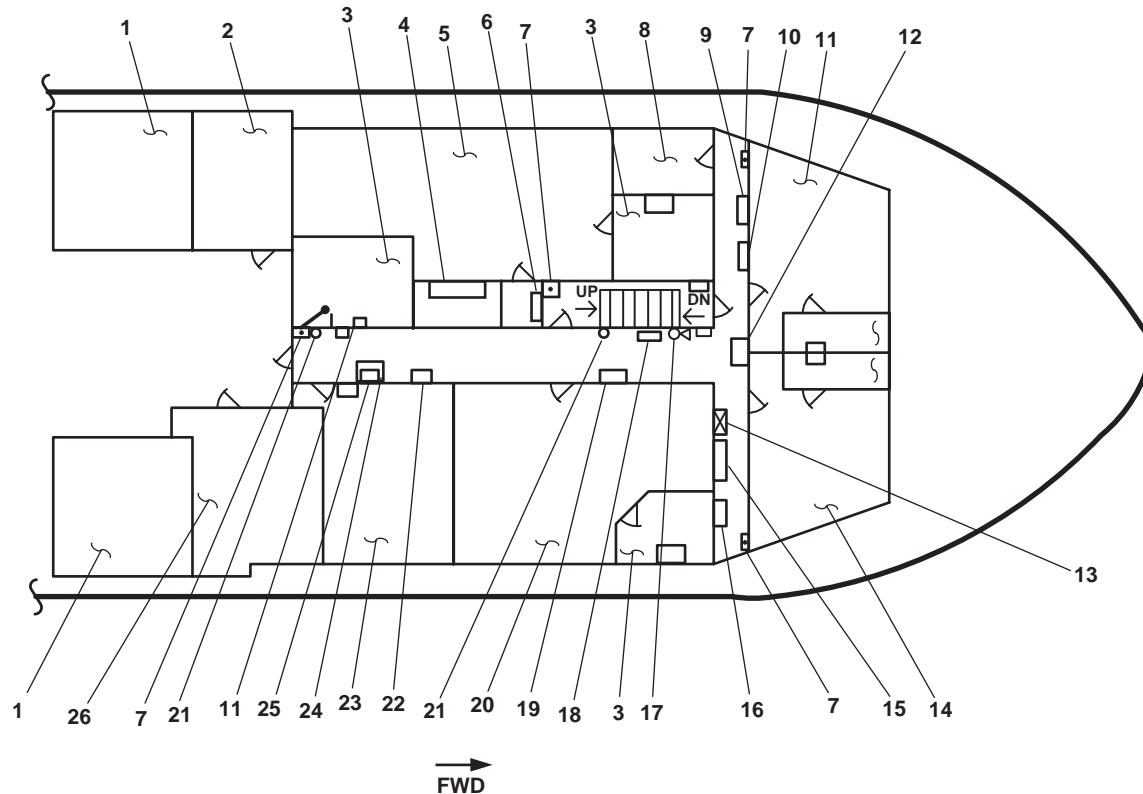
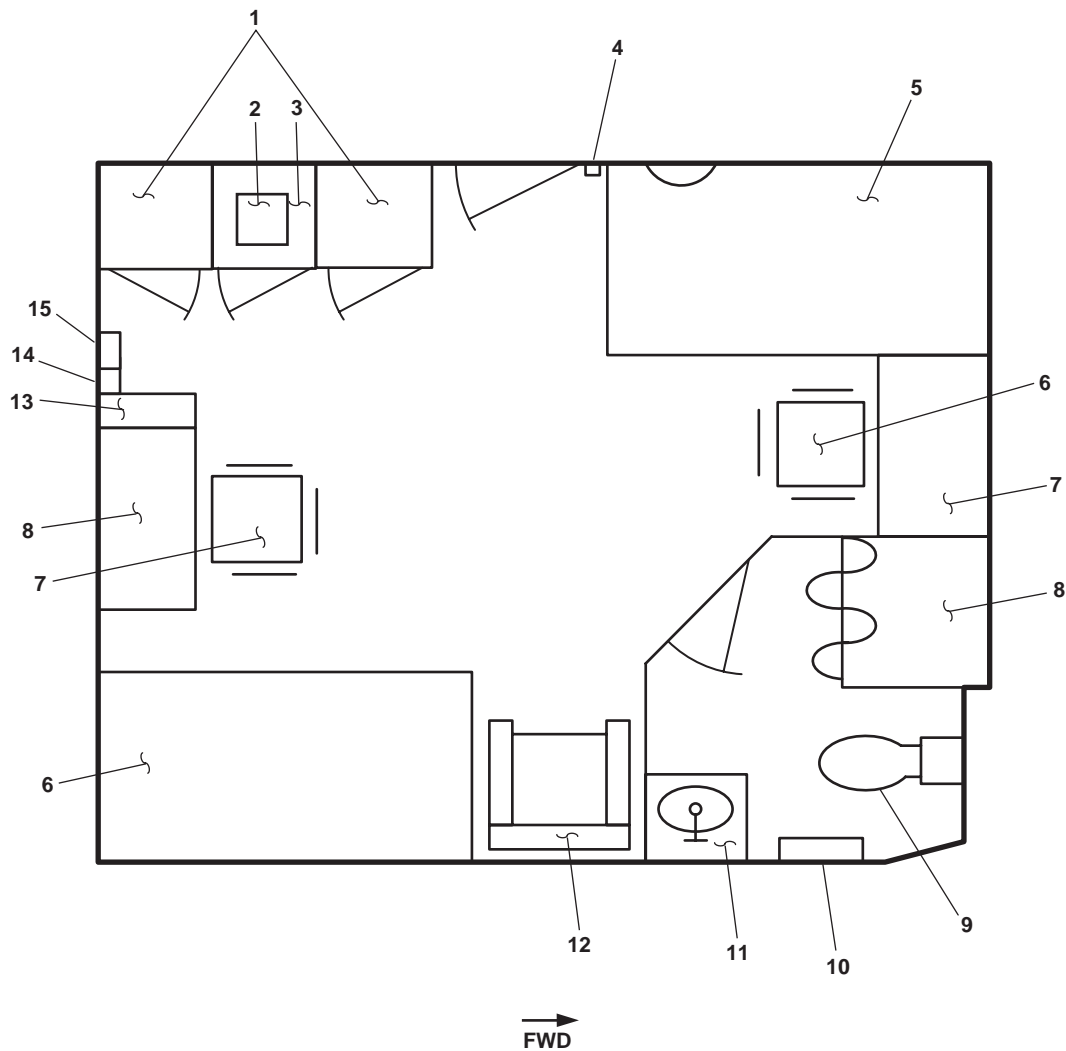

Figure 1. 01 Level Interior
Figure 7. Officer's Stateroom 1
1. Stack (figure 1, item 1). The stack contains the engine exhaust and crankcase vents.
2. Aft fan room (figure 1, item 2). The aft fan room contains Heating, Ventilation, and Air Conditioning (HVAC) and electrical equipment. See figure 2 for details.
3. Sanitary Space (figure 1, item 3). This space contains sanitary facilities, including a water closet, a sink, and a shower.
4. Medical locker (figure 1, item 4). The medical locker provides storage space for medical supplies.
5. Officer's stateroom 2 (figure 1, item 5). The officer's stateroom 2 provides accommodations for four officers. See figure 3 for details.
6. 120V pilothouse emergency distribution panel (figure 1, item 6). This panel provides 120 volts to various navigation system components, the windscreen elements, the intercom system, and the port and starboard search light power supplies.
7. Fire alarm pull station (figure 1, item 7). This fire alarm pull station immediately alerts the crew to the presence of fire when the lever is pulled.
8. Forward fan room (figure 1, item 8). The forward fan room contains HVAC and electrical equipment. See figure 4 for details.
9. 01 & 02 level reheater 120V fuse box No. 1 (figure 1, item 9). This fuse box provides fused protection for 01 and 02 level reheaters.
10. Convector heater 120V fuse box No. 2 (figure 1, item 10). This fuse box provides fused protection for 01 and 02 level convection heaters.
11. Chief Engineer's stateroom (figure 1, item 11). This is the berthing space for the chief engineer. See figure 5 for details.
12. Drinking fountain (figure 1, item 12). The drinking fountain supplies chilled potable water for personal consumption.
13. Fire station 8 (figure 1, item 13). Fire station 8 is equipped with 50 feet (15.2 m) of 1-1/2 inch fire hose and an all-purpose nozzle.
14. Captain's stateroom (figure 1, item 14). This is the berthing space for the vessel master. See figure 6 for details.
15. 120V distribution panel No. 2 (figure 1, item 15). This distribution panel contains circuit breakers for many of the non-critical electrical circuits on the 01 level.
16. 220V air conditioning distribution panel (figure 1, item 16). This distribution panel contains circuit breakers for the pilothouse and radio room rooftop air conditioning units.
17. General alarm bell (figure 1, item 17). The general alarm bell signals various emergency conditions on the vessel.
18. Fire axe (figure 1, item 18). The fire axe is used to aid the crew in gaining immediate access to a locked or enclosed area in the case of fire.
19. Key cabinet (figure 1, item 19). The key cabinet provides secure storage for up to 75 keys.
20. Officer's stateroom 1 (figure 1, item 20). The officer's stateroom 1 provides accommodations for four officers. See figure 7 for details.
21. Fire extinguisher (figure 1, item 21). The portable dry chemical fire extinguisher is used to extinguish fires on the 01 level.
22. 120V exterior emergency lighting panel No. 2 (figure 1, item 22). This panel contains circuit breakers for many of the emergency circuits on the 01 and 02 levels.
23. NCO stateroom (figure 1, item 23). This space provides berthing for two NCOs. See figure 8 for details.
24. General alarm system distribution panel (figure 1, item 24). This panel provides a junction box to interconnect general alarm system cables.
25. General alarm contact maker (figure 1, item 25). The general alarm contact maker controls sounding of the general alarm bells.
26. Emergency Diesel Generator (EDG) room (figure 1, item 26). This space contains the emergency generator and support equipment. See figure 9 for details.
1. Lockers (figure 7, item 1). The lockers provide storage space for personal items.
2. Refrigerator (figure 7, item 2). The refrigerator provides cold storage space for perishable items.
3. File cabinet (figure 7, item 3). The file cabinet with combination lock provides secure storage for personal items.
4. Thermostat (figure 7, item 4). The thermostat provides temperature control in the stateroom.